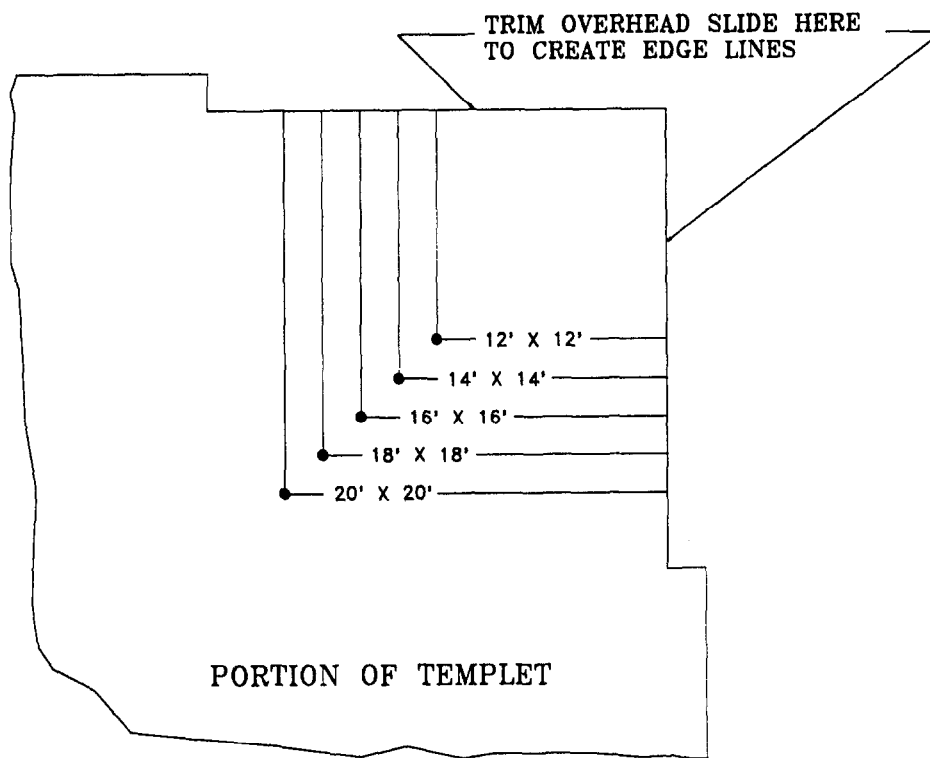

Figure 7
- The two sides of the target zone scale that face the edges of the sheet, must be trimmed along the lines marked "edge line." This is shown in Figure 7.